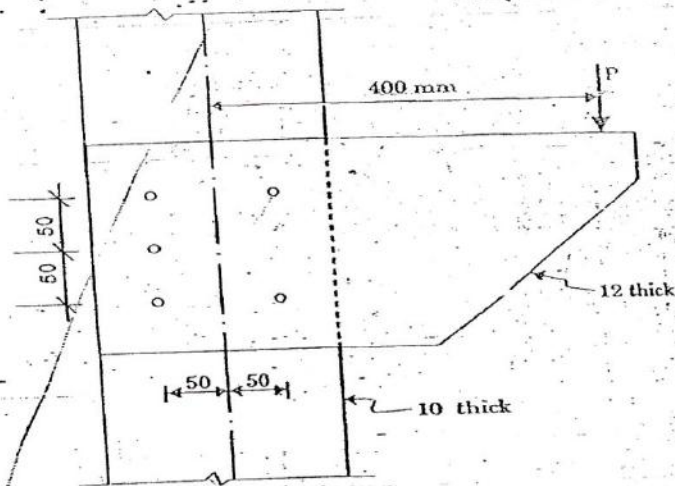

Figure 2-6
- (b) Find the maximum load P that can be carried by the bracket connection shown in Figure 2-6, if 5 - 20 mm dia power driven shop rivets are used. 18